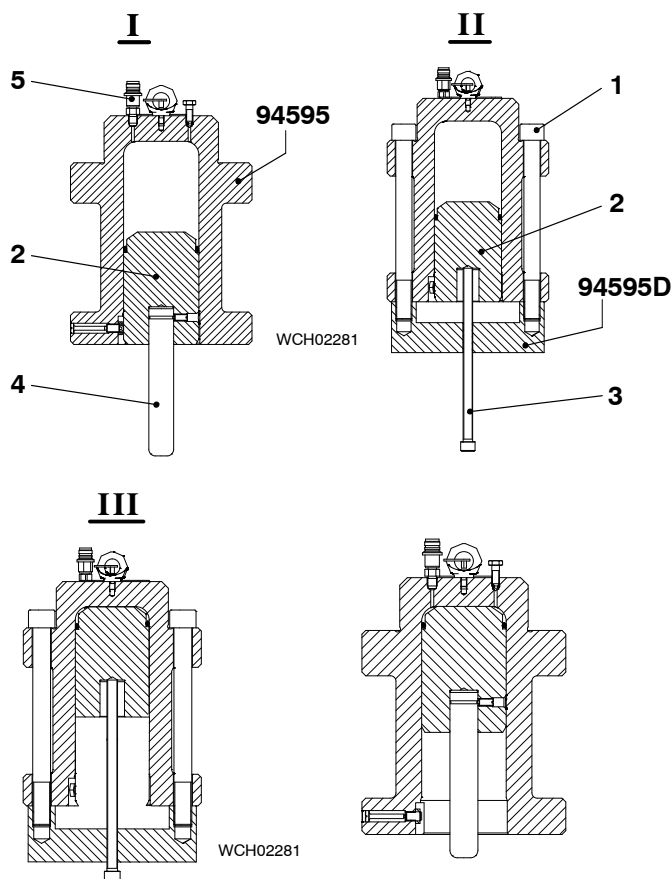

Fig. 2
- 1) Open the vent screw (5, Fig. 2) and push the piston (2) to the top of the cylinder of the hydraulic ram (94595).
- 2) If you cannot move the piston (2) with your hand, do step a) to step c):
- a) Remove the push rod (4) (94595B or 94595C) from the piston (5).
- b) Attach the piston reset tool (94595D) to the hydraulic ram (94595) with two of the screws (1).
- c) Use the spindle (3) to push the piston (2) to the top of the cylinder.
- 4) Put the short push rod (4) (94595B) into the piston (5).
**Note: The screws (1) are from the fuel pump cover.**